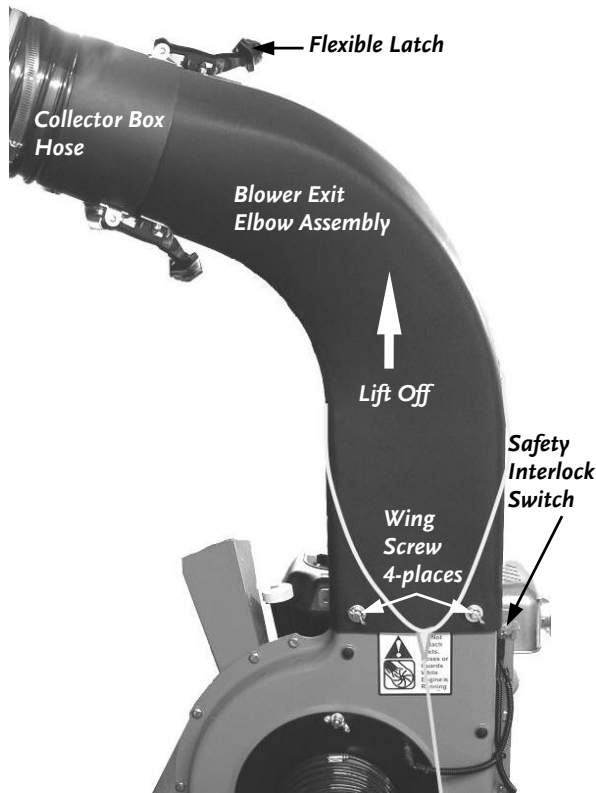

Figure 45
1. Disconnect the Blower Exit Elbow to the Collector Box Hose by releasing the two (2) Flexible Latches (**Figure 45**) and separate the Hose.
2. Remove the four (4) Wing Screws from the Blower Exit Elbow Assembly (**Figure 45**).
3. Lift the Blower Exit Elbow Assembly from the top of the Blower and install a new assembly in the reverse order (**Figure 45**).
1. Disconnect the Blower Exit Elbow Assembly from the Collector Box Hose (**Figure 45**).
- BEFORE PERFORMING ANY MAINTENANCE, SHUT OFF THE ENGINE, ALLOW FIVE (5) MINUTES FOR PARTS TO COOL AND DISCONNECT THE SPARK PLUG WIRE.
1. Disconnect the Blower Exit Elbow Assembly from the Collector Box Hose (*Figure 45* on page 42).